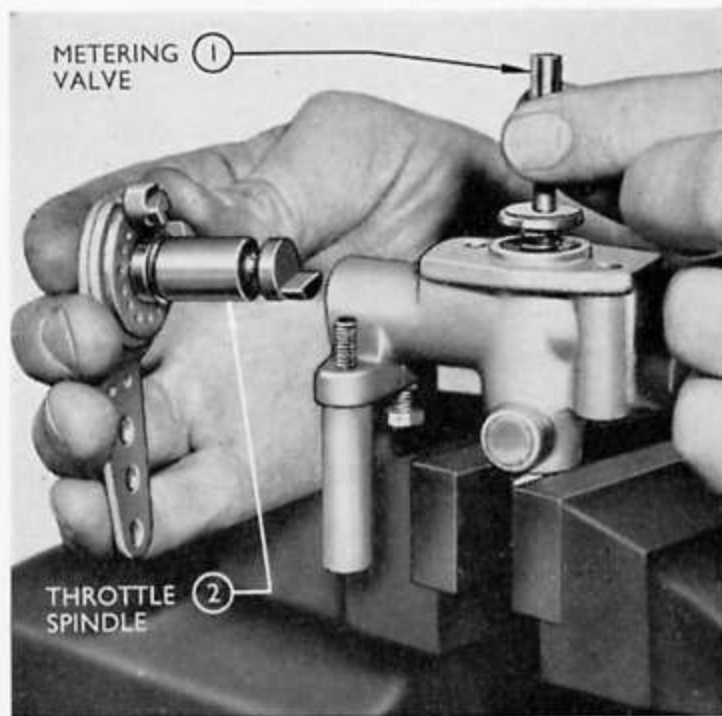

Fig. 37
- (d) Withdraw the metering valve from the housing (see Fig. 37).